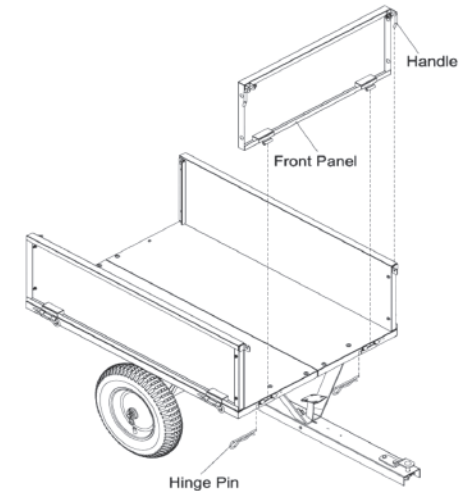

Fig. 7
STEP 7: Attach the Front Panel (See Fig. 7)